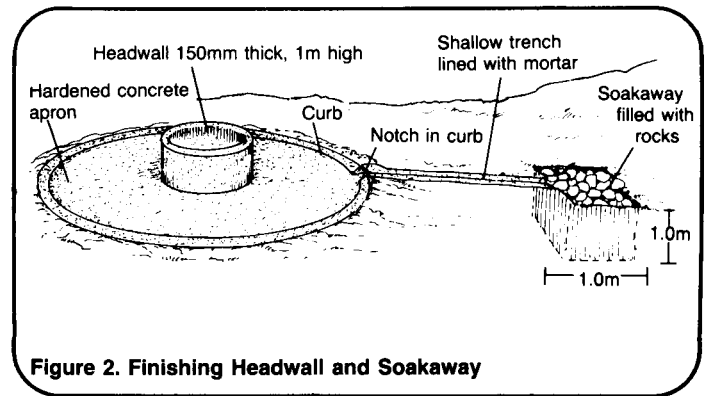

Figure 2. Finishing Headwall and Soakaway
8. Cover the concrete with straw or wet burlap and keep it moist for seven days. Before the concrete has fully set, pour water on the apron to determine the low point at the edge. Cut a notch out of the curb at this point to allow water to drain away, as shown in Figure 2.
10. When the concrete apron has firmly set, remove the cover material. Position forms for the outside of the headwall. The radius of the forms should be 150mm greater than the radius of the steel shutters already in place. This will make the headwall 150mm thick. Pour concrete into the headwall forms and trowel smooth the top. See Figure 2. If a water-lifting device other than a pump is to be fixed to the